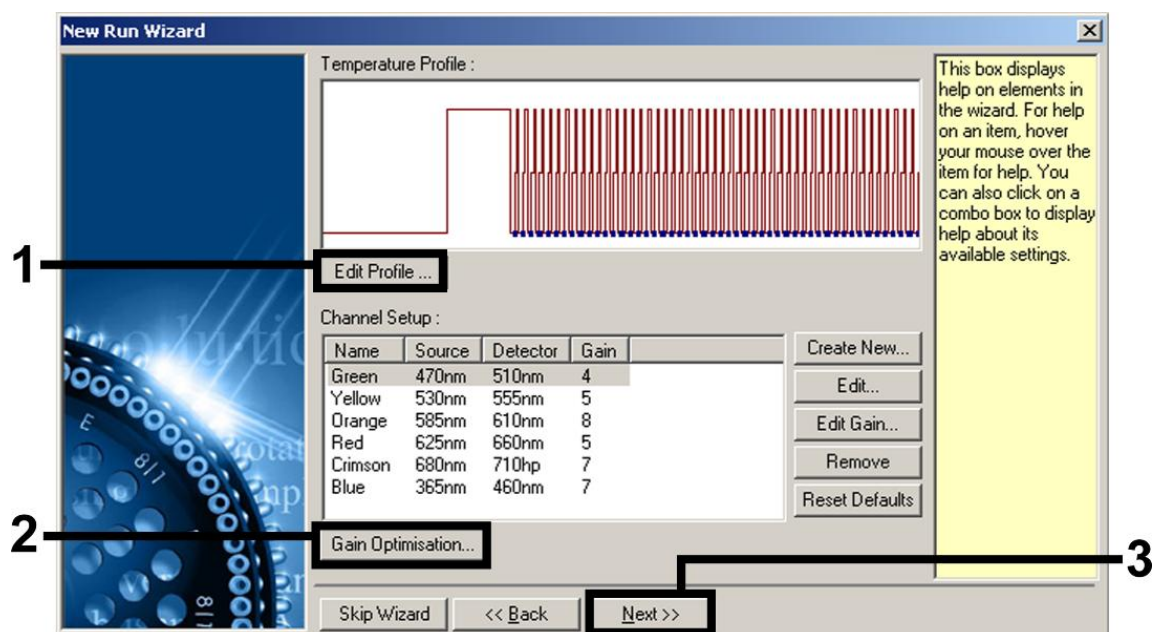
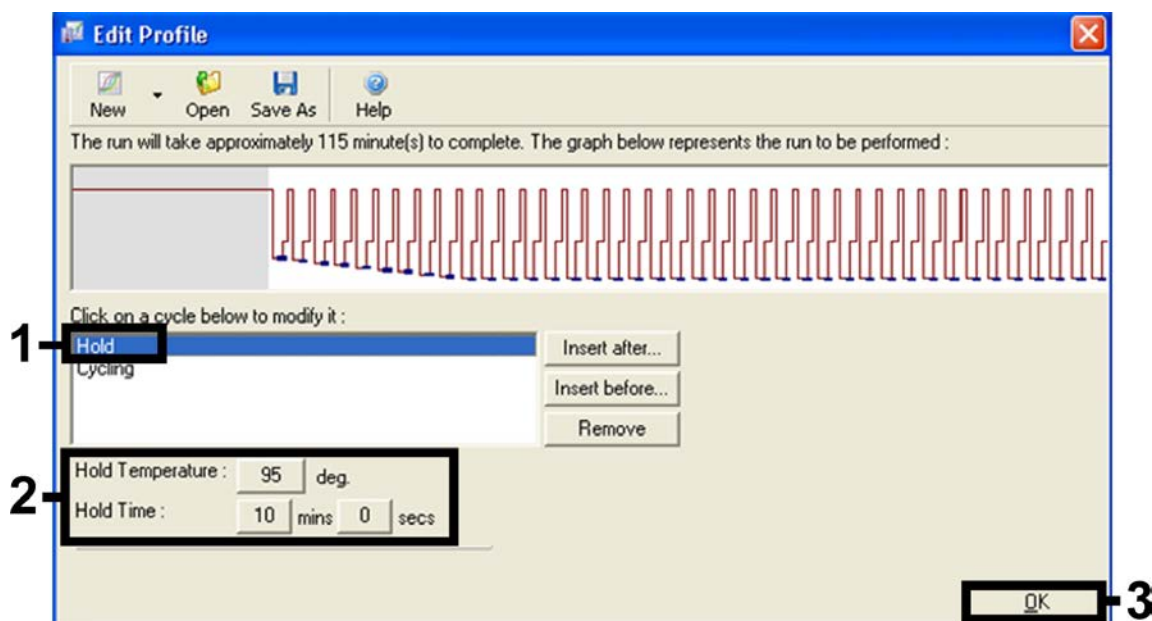

Figure 5. Editing the profile.
Figure 6. Initial activation of the hot-start enzyme.
Initial activation of the hot-start enzyme	Figure 6
8. Click the “Edit Profile” button in the next “New Run Wizard” dialog box (Figure 5), and program the temperature profile as shown in Figures 6–7.